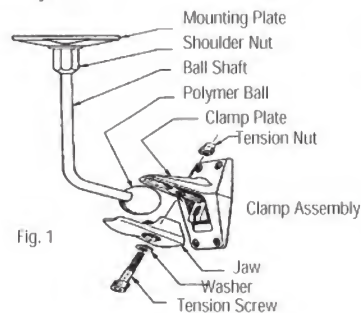

Fig. 1
When mounting things to ceilings here are some of the most common installation errors: Not locating the precise center of the joist—screwing fasteners into an edge rather than the center of the joist. This results in either splitting the wood or only partially engaging the screw shaft. (See Figs. 1 & 2)
- The clamp assembly—consisting of the clamp plate and jaw—mounts to the back of the speaker. The clamp assembly provides the clamping action that surrounds and compresses on the ball, locking in the chosen angle of adjustment. (See Fig. 1)